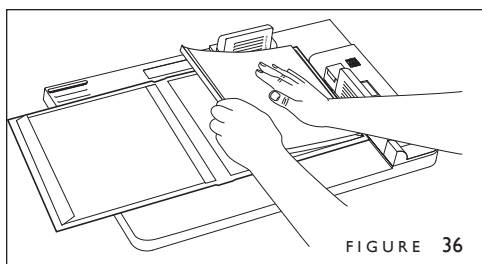

FIGURE 36
4. Set your bound book block *upside down* in place against the Guide's translucent green stops and press down to fasten the book block to the narrow adhesive area (Figure 36). The window on the book block and the window on the cover should be aligned and evenly positioned within the cover.